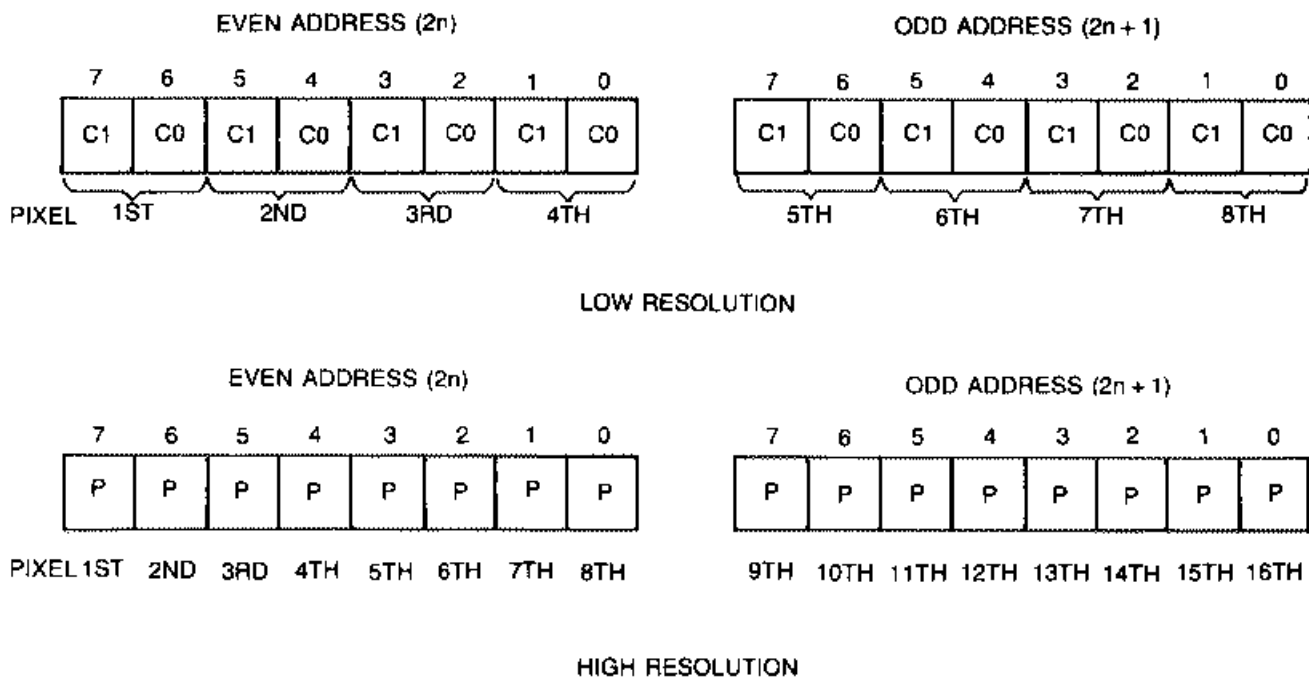

FIGURE 2-89. GRAPHIC DATA FORMAT
2.5.6.2 Graphic Modes (Figure 2-89)
Color graphic mode defines each pixel by consecutive pairs of bits, C1 and C0, for low resolution displays, and bit-by-bit for high resolution displays (Figure 2-89). In low resolution mode, the active color set is selected according to the CSEL and BACKI signals of the color register (03D9H). One of the four colors in each set is selected by the C0 and C1 pixels, as described in Table 2-51.